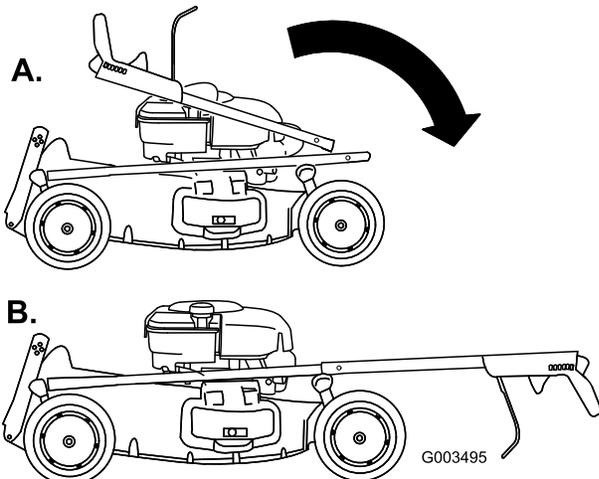

Figure 4
3. Carefully move the upper handle forward and place the ends over the lower handle so they are in line and nest together (Figure 4).